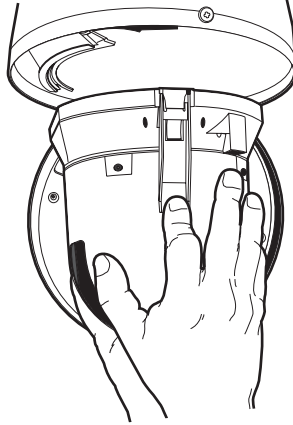

Figure 7. Spectra IV Dome Drive Installation
1. Install the dome drive (refer to Figure 7):